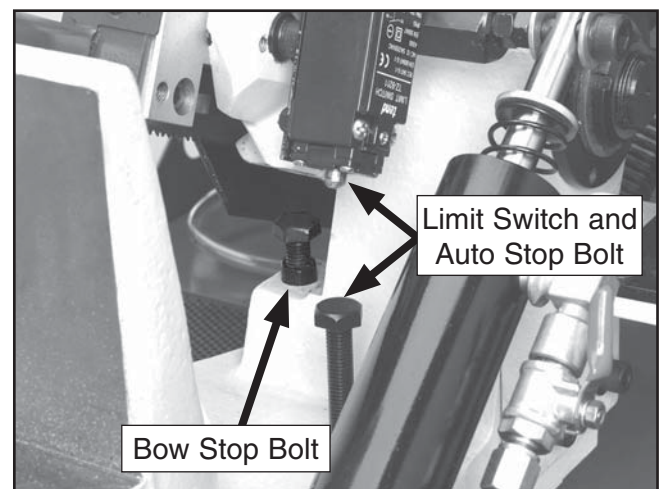

Figure 47. Auto stop.
- Adjust the auto stop bolt and the bow stop bolt (**Figure 47**), so the bandsaw motor will stop when the blade teeth are just below the vise table surface.